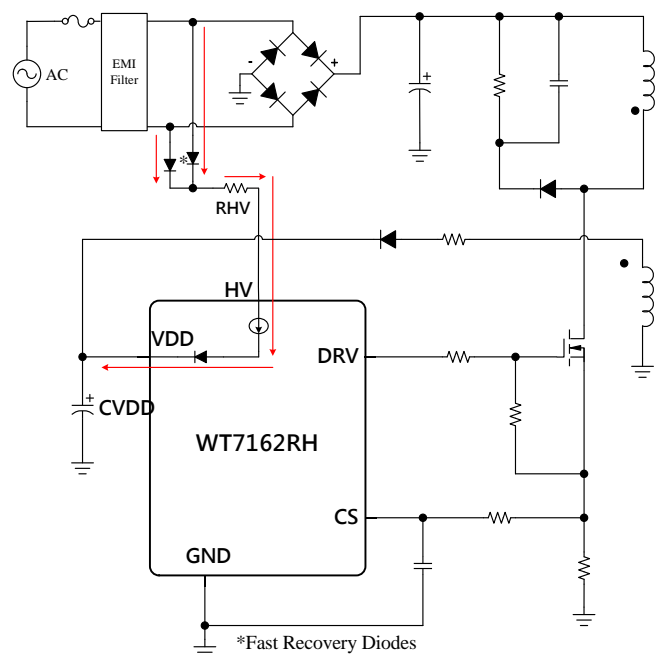

Fig. 5.1
The WT7162RH is implemented with a high-voltage startup circuit for fast start-up functions and reduce power dissipations, as shown in Fig. 5.1. At startup, the high-voltage current source sinks current from AC Line and Neutral to provide startup current and charge the capacitor CVDD which connected to VDD. At the startup transient, the HV current will charge VDD capacitor until this VDD voltage reaches the UVLO (ON) threshold. As VDD trips UVLO (OFF), HV pin will recharge VDD capacitor till VDD voltage rises back to UVLO (ON) again. The resistor RHV connected in series with HV pin is recommended in the range between 100Ω and 510Ω. Besides, it is recommended that the VDD capacitor CVDD connected with VDD pin is in the range from 22μF to 47μF. It is important to note that it is not allowed to connect HV pin to any DC voltage. (e.g. directly to bulk capacitor)